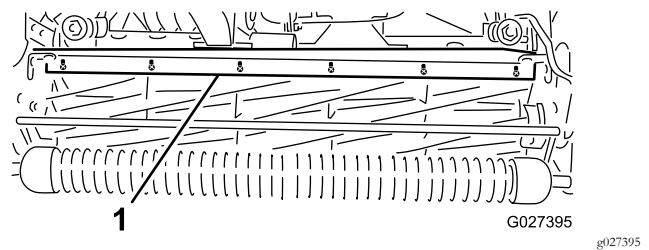

Figure 53
1. Loosen the screws securing the top bar (Figure 53) to the cutting unit.